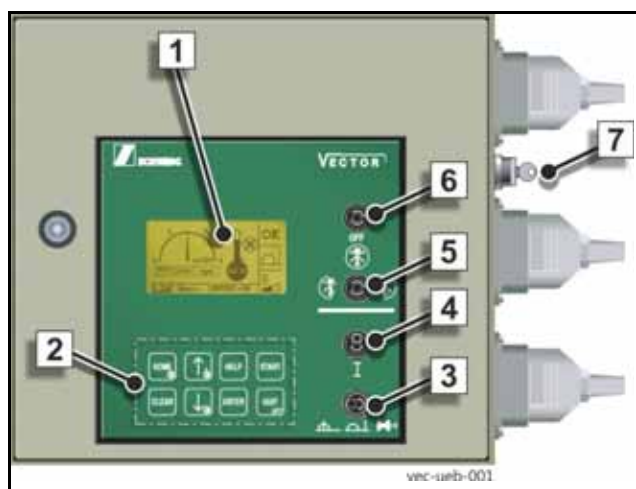

Fig. 216
- Switch the key-operated switch (7) (**Fig. 216**) to position "I".